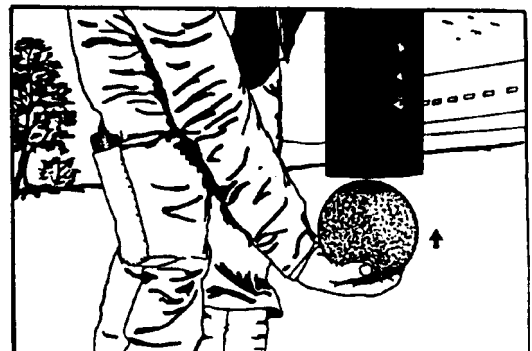

Fig.: 7
- Push the damp sponge rubber ball into the end hose (Fig.: 7), then switch the concrete pump with a lower stroke rate to "suck" (reverse running).